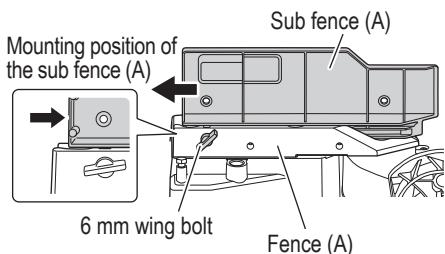

Fig. 19
When right bevel angle cutting, loosen the 6 mm wing bolt, then slide the sub fence (A) outward and remove it as shown in Fig. 19.
In the case of direct angle cutting and left bevel angle cutting, slide inward to the position where the sub fence (A) hits, and secure it with 6 mm wing bolt. (as shown in Fig. 19)